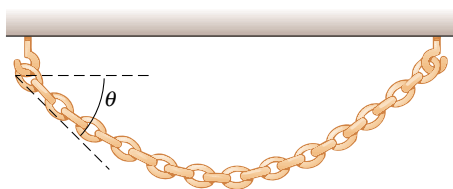

Figure P12.19
19. A flexible chain weighing 40.0 N hangs between two hooks located at the same height (Fig. P12.19). At each hook, the tangent to the chain makes an angle $\theta = 42.0^\circ$ with the horizontal. Find (a) the magnitude of the force each hook exerts on the chain and (b) the tension in the chain at its midpoint. (*Hint:* For part (b), make a free-body diagram for half the chain.)